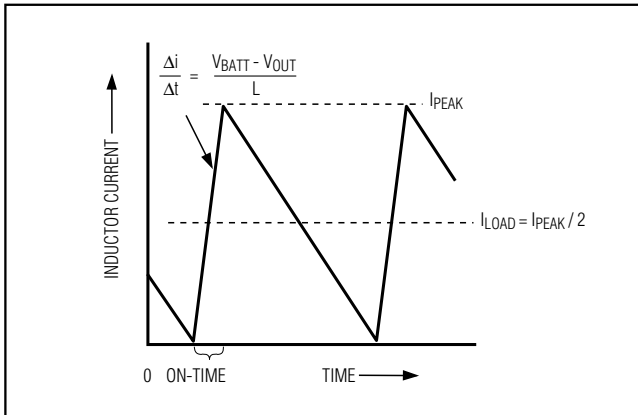

Figure 4. Pulse-Skipping/Discontinuous Crossover Point
where K is the on-time scale factor (Table 4). The load-current level at which PFM/PWM crossover occurs,  $I_{\text{LOAD(SKIP)}}$ , is equal to 1/2 the peak-to-peak ripple current, which is a function of the inductor value (Figure 4).
- 1) Determine the minimum (valley) inductor current ( $I_{L(MIN)}$ ) under conditions when  $V_{IN}$  is small,  $V_{OUT}$  is large, and load current is maximum. The minimum inductor current is  $I_{LOAD}$  minus half the ripple current (Figure 4).